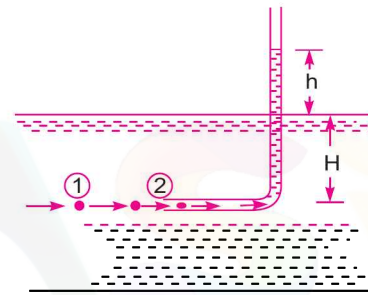

Fig. 6.13 Pitot-tube.
**6.7.3 Pitot-tube.** It is a device used for measuring the velocity of flow at any point in a pipe or a channel. It is based on the principle that if the velocity of flow at a point becomes zero, the pressure there is increased due to the conversion of the kinetic energy into pressure energy. In its simplest form, the pitot-tube consists of a glass tube, bent at right angles as shown in Fig. 6.13.
The lower end, which is bent through  $90^\circ$  is directed in the upstream direction as shown in Fig. 6.13. The liquid rises up in the tube due to the conversion of kinetic energy into pressure energy. The velocity is determined by measuring the rise of liquid in the tube.